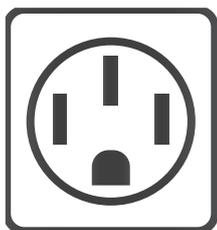

Fig. 5.5.1
1. Determine the plug type purchased by the homeowner. The NEMA 14-50 is required. (See Fig. 5.5.1 )